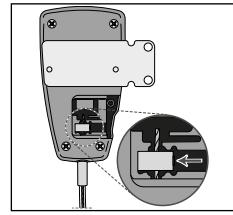

Fig. 9
11. Slide the Cable End Block back over the steel inner cable and position the End Block back into the corresponding slot in the satellite (**see Fig. 9**).